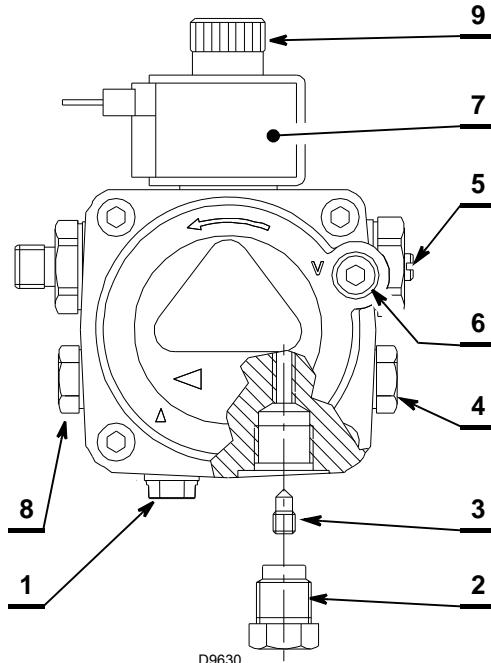

Fig. 17
- If necessary, recalibrate the pressure using the screw 5 (Fig. 17).